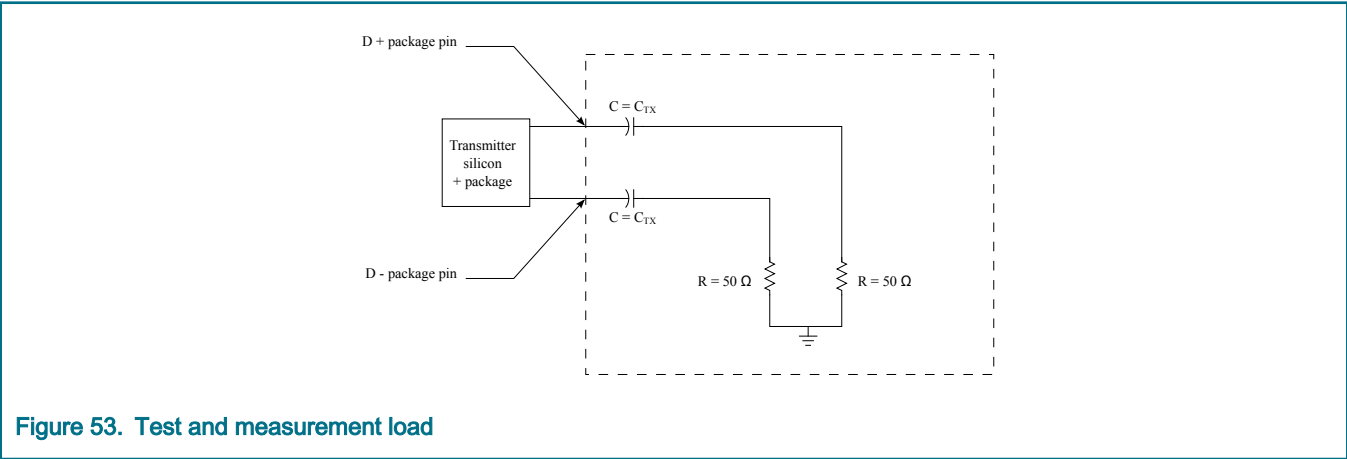

Figure 53. Test and measurement load
1. Each UI is 400 ps ± 300 ppm. UI does not account for spread-spectrum clock dictated variations. 2. The maximum transmitter jitter can be derived as $T_{TX-MAX-JITTER} = 1 - T_{TX-EYE} = 0.25 \text{ UI}$. Does not include spread-spectrum or REFCLK jitter. Includes devices random jitter at 10^{-12}. 3. Specified at the measurement point into a timing and voltage test load and measured over any 250 consecutive transmitter Uis. 4. A $T_{TX-EYE} - 0.75 \text{ UI}$ provides for a total sum of deterministic and random jitter budget of $T_{TX-JITTER-MAX} = 0.25 \text{ UI}$ for the transmitter collected over any 250 consecutive transmitter Uis. The $T_{TX-EYE-MEDIAN-to-MAX-JITTER}$ median is less than half of the total transmitter budget collected over any 250 consecutive transmitter Uis. It must be noted that the median is not the same as the mean. The jitter median describes the point in time where the number of jitter points on either side is approximately equal as opposed to the averaged time value. 5. See Figure 53. 6. Jitter is defined as the measurement variation of the crossing points ($V_{TX-DIFFP-P} = 0 \text{ V}$) in relation to a recovered transmitter UI. A recovered transmitter UI is calculated over 3500 consecutive unit intervals of sample data. Jitter is measured using all edges of the 250 consecutive UI in the center of the 3500 UI used for calculating the transmitter UI.
5. See Figure 53.